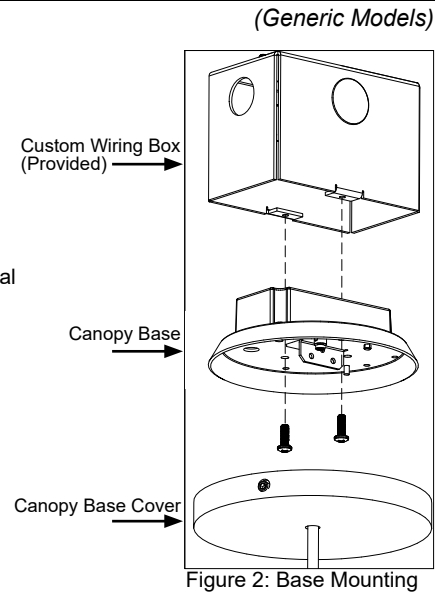

Figure 2: Base Mounting
4. Make connections from driver to supply wiring: [Figure 2]
5. Attach mounting kit onto 4" octagonal wiring box using [2] (provided) Phillips head screws. [Figure 2]
5. Attach canopy base onto custom wiring box using [2] provided Phillips screws. [Figure 2]